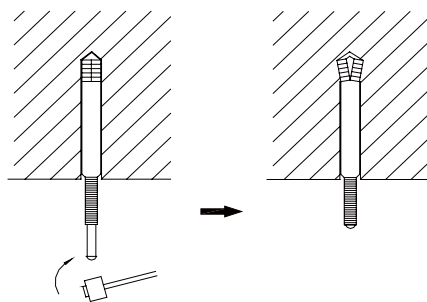

Figure 1-1-1
3. Insert a M10 expansion bolt into the hole. Drive a nail into the bolt. Refer to the profile dimensions drawing of the indoor unit for the distance between the holes. Refer to Figure 1 for the installation of the expansion bolt, as Figure 1-1-1 shows.